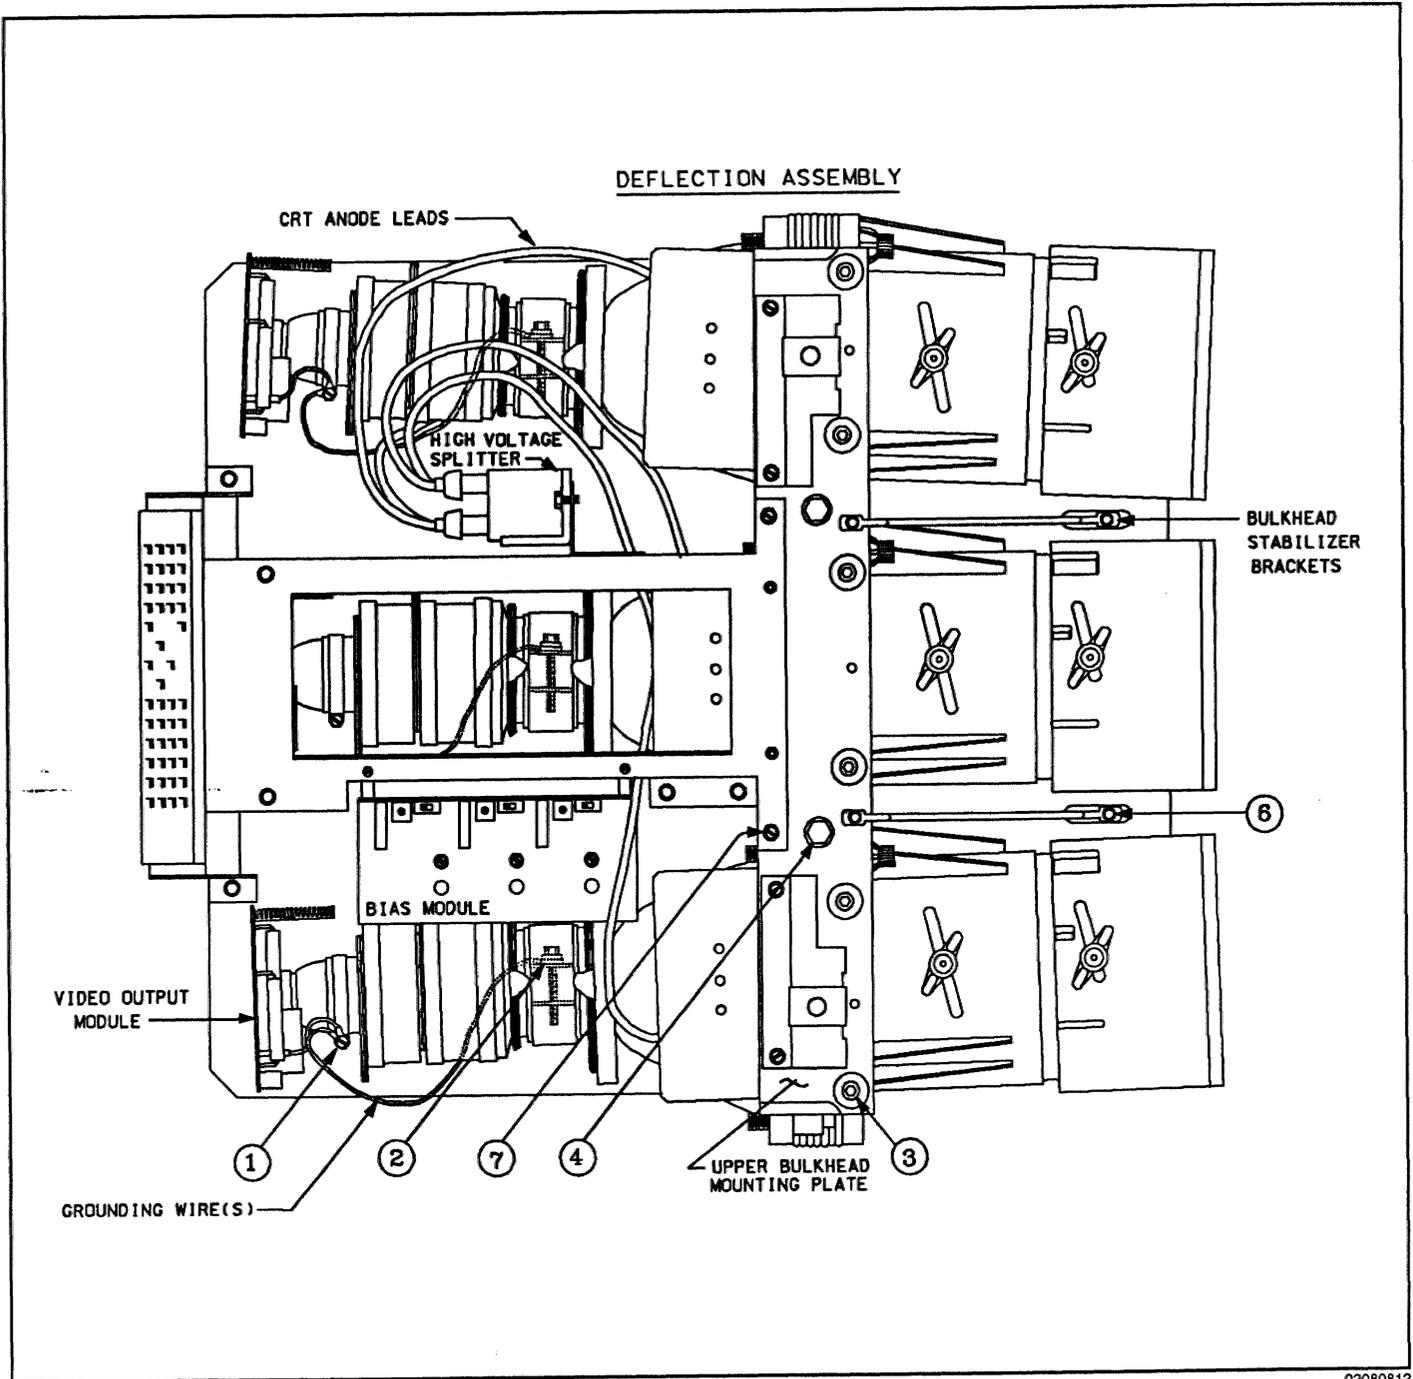
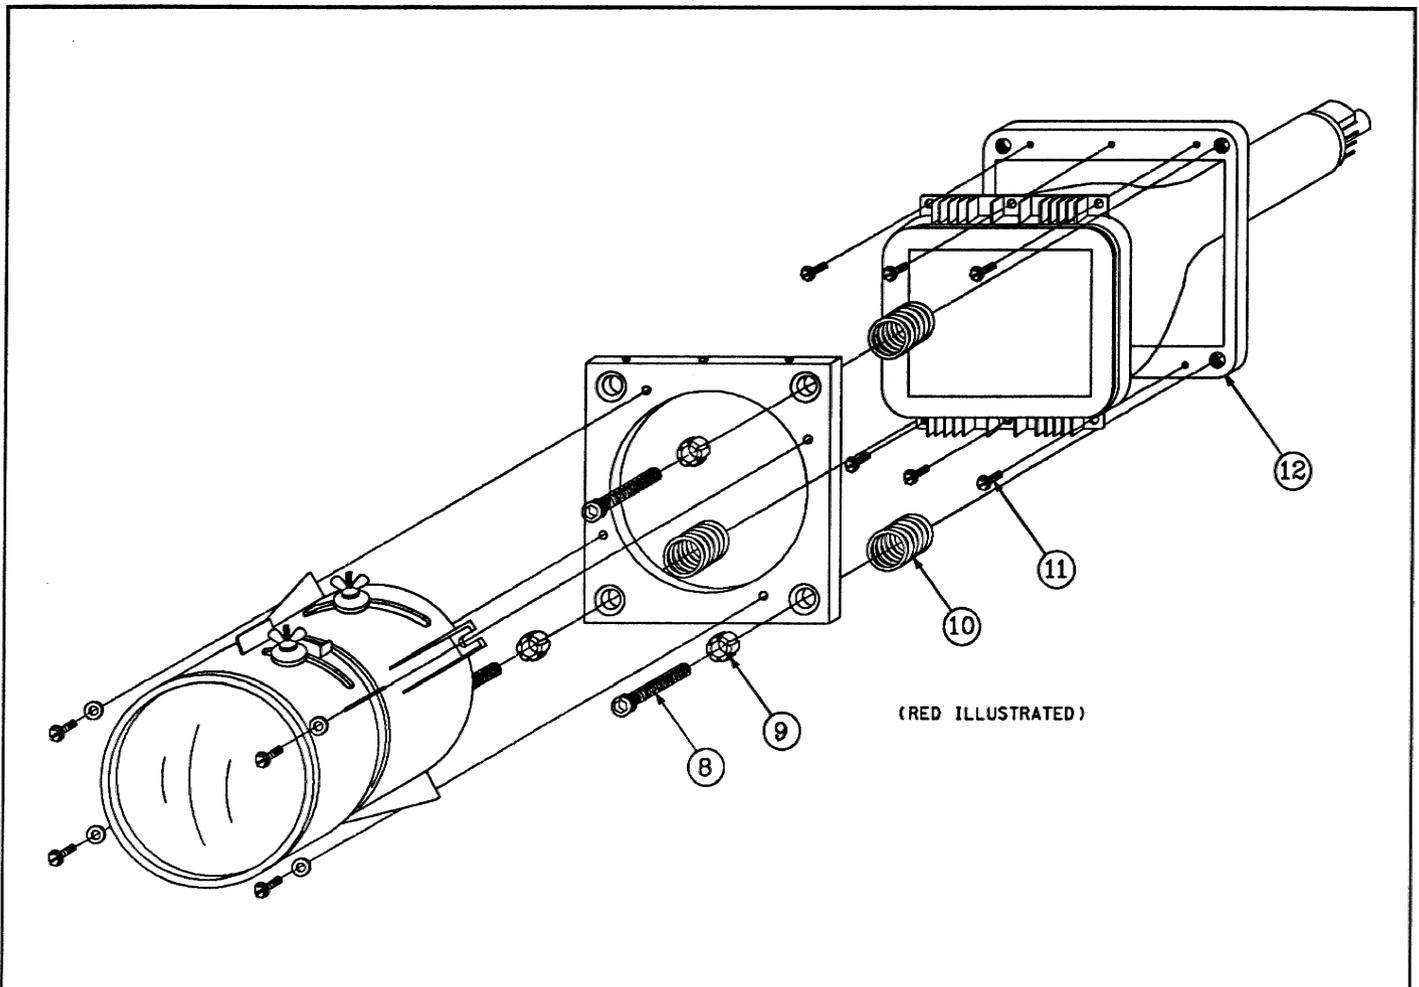

FIGURE 5-15 CRT Removal (A)
FIGURE 5-16 CRT Removal (B)
g) Loosen the main Deflection assembly clamp which secures the Deflection assembly to the CRT neck. The Deflection assembly is shown in Figure 5-15. Slide the Deflection assembly off the neck of the CRT.
h) Remove the 6 CRT alignment screws (item 3).
i) Remove the 2 bulkhead securing bolts (item 4).
j) Remove the 4 bulkhead stabilizer bracket screws (item 5) for the two stabilizer brackets (item 6).
k) Remove the 2 bulkhead Bias module mounting bracket screws (item 7).
o) With the hex head ball-nose driver supplied in the tool pouch, remove the 3 CRT tilt bolts, swivel bushings and tilt springs (items 8,9 and 10 in Figure 5-16).
p) Remove the 6 CRT mount screws (item 11 in Figure 5-16) from the CRT heat sink (item 12 in Figure 5-16).
a) Mount the CRT heat sink (item 12 in Figure 5-16) to the CRT with the 6 CRT mount screws (item 11).
b) Secure the CRT/bulkhead to the lens mounting plate with the 3 CRT tilt bolts, swivel bushings and tilt springs previously removed (items 8,9 and 10 respectively in Figure 5-16).
g) Mount the Bias module mounting bracket with the 2 screws previously removed (item 7 in Figure 5-15).
h) Secure each bulkhead stabilizer bracket with the 4 screws previously removed (item 5 in Figure 5-15).
i) Install the 2 bulkhead securing bolts (item 4 in Figure 5-15)
j) Screw in the 6 CRT alignment screws (item 3 in Figure 5-15). Do not tighten fully.
e) Remove the Deflection assembly clamp screw to release the grounding wire to the P3 connector on the Video Output Module. See Figure 5-15.